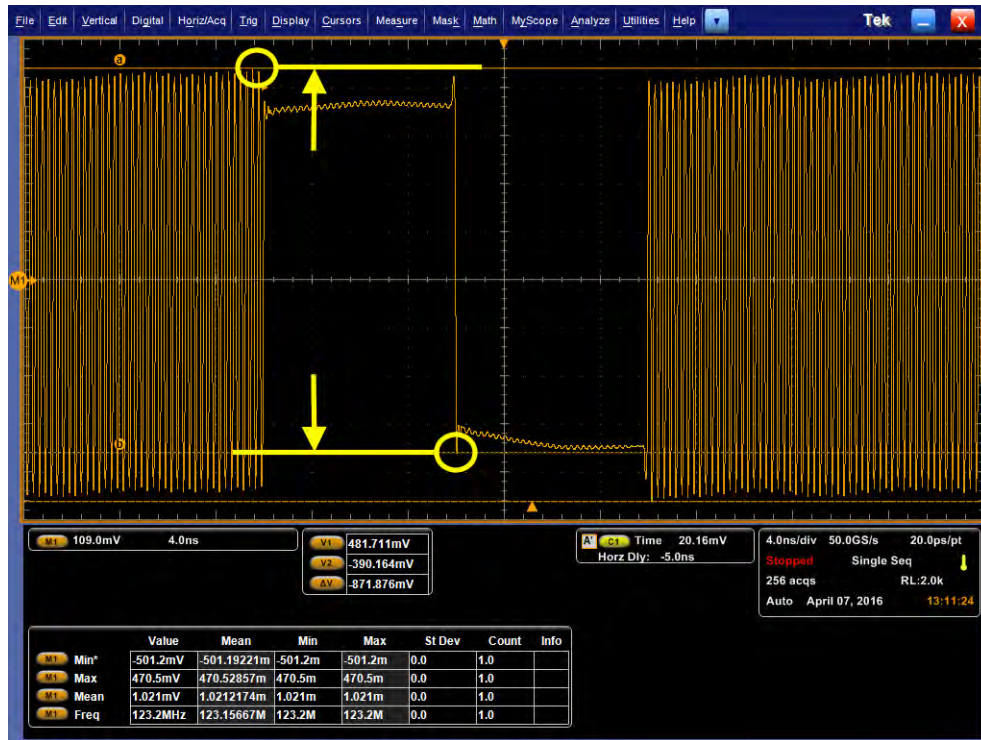

FIGURE 40. MEASURED TRANSITION AMPLITUDE (EXAMPLE 825mVPP)
- Using cursors, measure peak-to-peak transition amplitude as shown Figure 40.